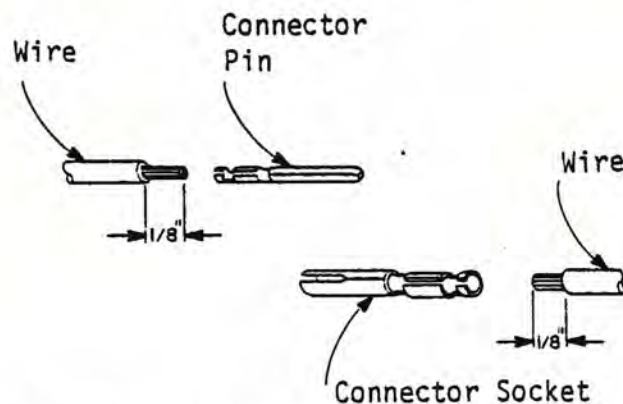

Figure 5-52a Connector Pin and Connector Socket Wire Installation
1. Insert the exposed portion of a wire that you have prepared into a connector pin or connector socket as shown in Figure 5-52a.